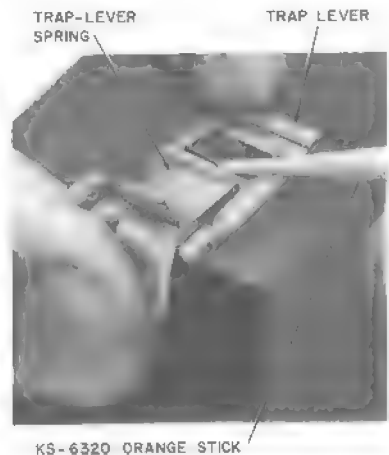

Fig. 43—Bending Trap-Lever Spring
- (1) Place trap-lever and spring on a flat surface (Fig. 43).
- (2) Use a KS-6320 orange stick to bend trap-lever spring around center bar of trap-lever (Fig. 43 and 44).